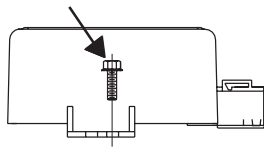

Figure 3 - Regulator Installation
2. See Figure 3 for torque values.